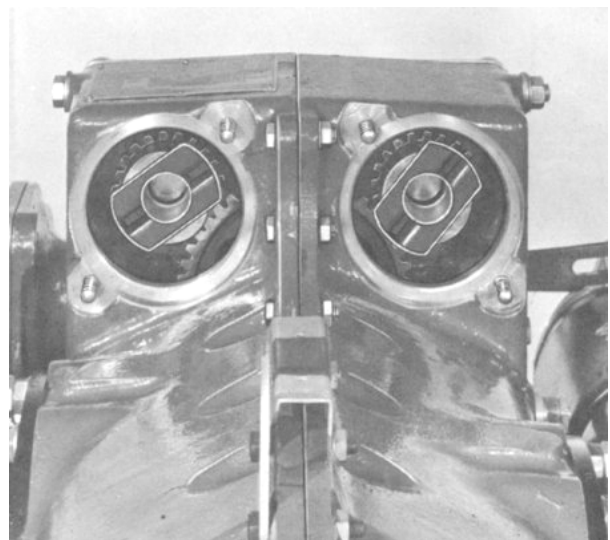

FIGURE 8-14. POSITION OF MAGNETO COUPLINGS.
a. With engine in upright position, insert one pressed steel retainer (22) into each gear hub slot.
b. Cover each of four new rubber bushings with a film of Gredag No. 44 and insert two bushings (21) into each retainer, rounded long edges first.
c. Turn the crankshaft to the No.1 cylinder advance firing angle as described in the following paragraph. Lubricate each magneto drive gear shaft and teeth (20) and insert into bushings (15). Observe the shaft ends from the rear as they are carefully pushed through the adapter oil seals to make sure the seal lips are not reversed or damaged. Mesh the magneto drive gears to the idler gear to the approximate position shown in Figure 8-14. These positions will vary slightly due to differences in magnetos and gears.